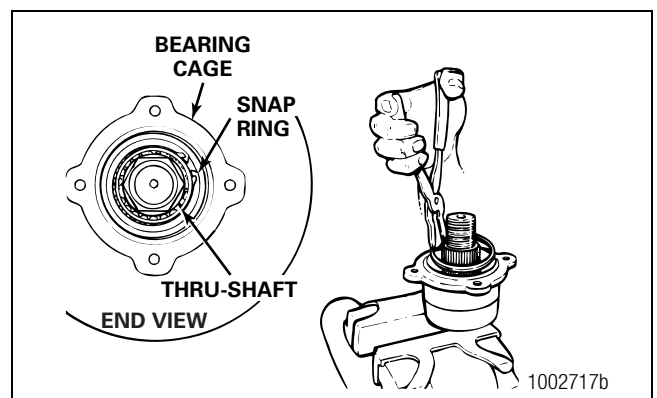

Figure 3.12
3. Remove the internal snap ring that holds the bearing cup in the output cage. Figure 3.12.